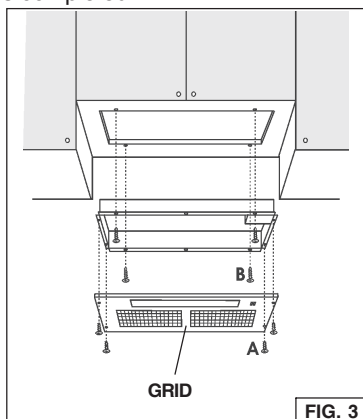

FIG. 3
2. Take off the (4) "A" screws and remove the metal grid (Fig. 3).
4. Insert the hood in the cabinet and secure with the (4) "B" mounting screws 3.2x13mm (Fig. 3). For alternative side fixing use M4x15mm screws with washers and nuts.
1. Remove the grid taking off the (4) "A" screws 3.9x6mm (Fig. 3).